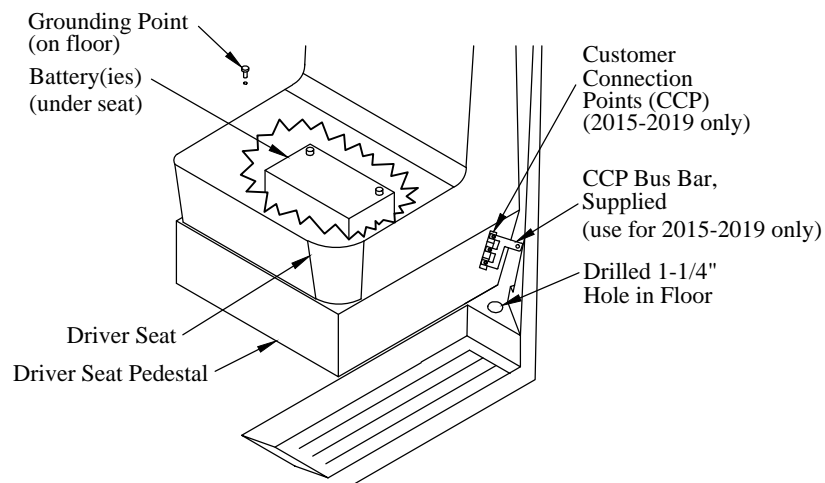

Figure 12: Power connection locations.
3. **Drill** and **Deburr** a 1-1/4" hole in the floor next to the driver seat in the location shown (Figure 12).
4. **Route** the power cables under the vehicle from the liftgate, along the frame, to a location under the driver door (Figure 12).
9. **Cut** the negative(-) lead to the length required to reach a vehicle ground point on the floor between the front seats (Figure 12).
11. **Connect** the negative(-) lead to a vehicle ground point on the floor between the front seats. (Figure 12).
18. **Remove** the plastic cover from the CCP on the driver seat pedestal (Figure 12).
19. **Install** the supplied bus bar on the CCP studs using three (3) supplied M5 nuts and star washers.